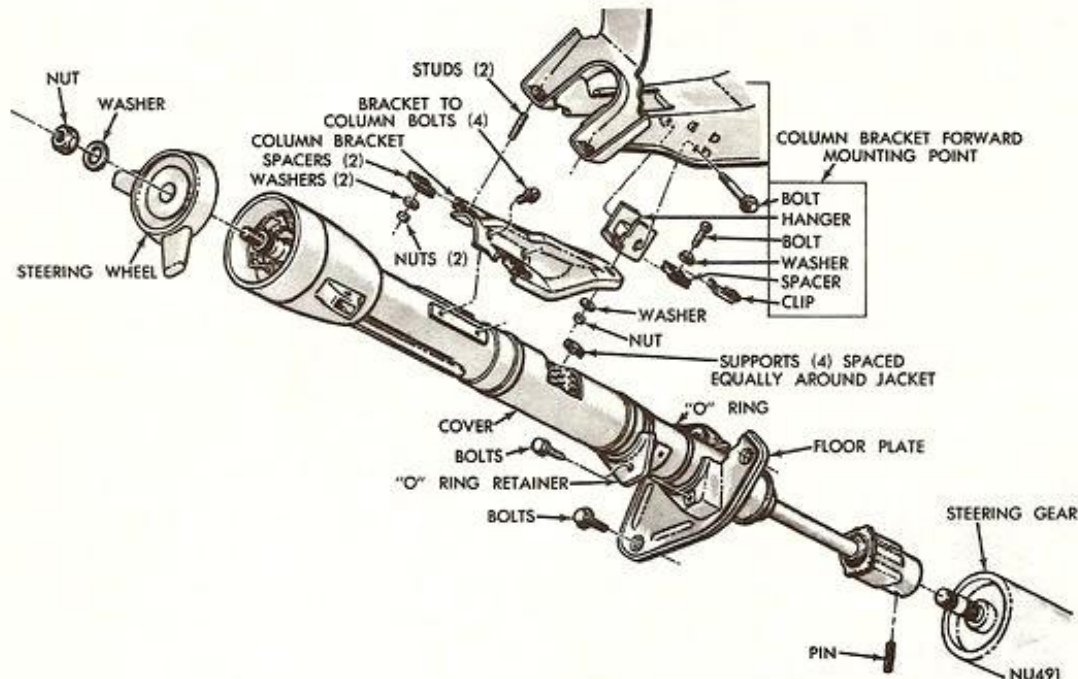

FIGURE 9. STEERING COLUMN MOUNTING
4. Center steering shaft coupling at midpoint of its travel. This is accomplished by moving column and bracket assembly fore and aft in the instrument panel support so dimension between top of coupling and center of gauge hole is $13/16$ inch (Figure 9). Tighten the two upper bracket nuts to 110 inch-pounds. Dart models with power steering have no gauge hole in the steering shaft. Measure from top of coupling to weld on steering shaft. Adjust to $3/8$ inch.